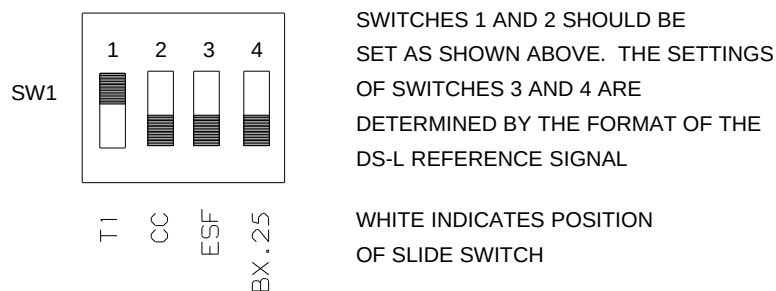

Figure 8-45. CI Option Switch Settings
1. Set the options on the Clock Input Board (CI) per Figure 8-45.